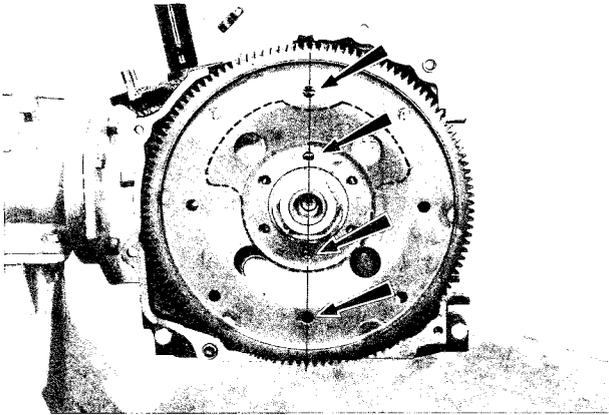

Fig. 1-77 Installing drive plate
8. Install the drive plate on the counter weight as shown in Fig. 1-77 and tighten the attaching bolts.